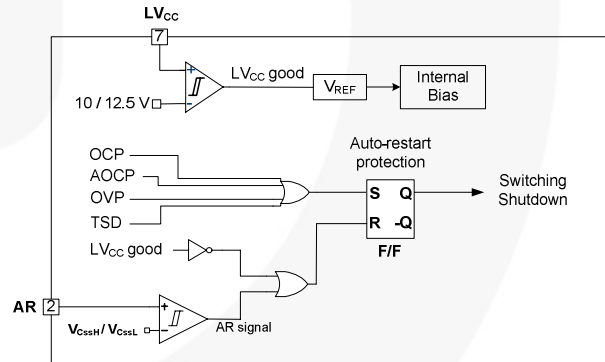

Figure 22. Protection Blocks
5. Protection Circuits: The FSFR-US series has several self-protective functions, such as Over-Current Protection (OCP), Abnormal Over-Current Protection (AOC), Over-Voltage Protection (OVP), and Thermal Shutdown (TSD). These protections are auto-restart mode protections as shown in Figure 22.